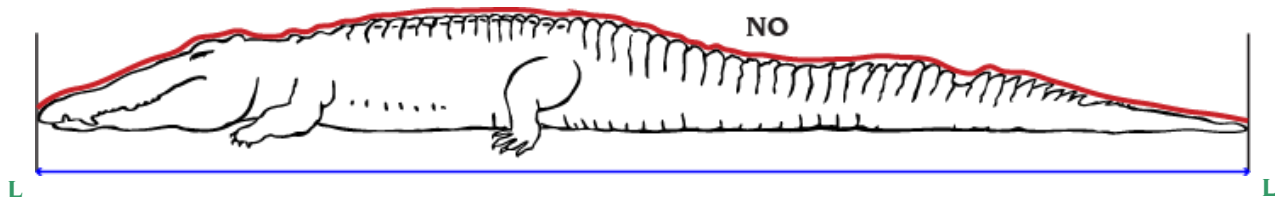

Figure 1
Rowland Ward measures crocodilians in a straight line between the pegs and **not** following the contour line of the body from nose to tail. (Figure 1) The body contour, scales and depression over the spine add considerably to the measurement. Also, some specimens are considerably bulkier in the middle, depending on two factors: a) the size of recent meals, and b) the amount of time elapsed after death because crocodilians bloat after dying and both are factors that will increase an “over the body” contour measurement.
1. Length. Lay the crocodile on a flat piece of terrain that is cleared of debris such as rocks and sticks. This is important in order to get a proper measurement. Pull the nose and tail of the reptile into a straight line, and then drive in pegs at each end. Make sure the pegs are at a 90-degree angle to the ground. Remove the crocodile. Take the measurements between pegs along the ground. Care should be taken to measure from where the peg is entered in the ground in a straight line to where the second peg touches the ground. The terrain must be flat and the tape measure must not be pushed into depressions or lifted up by sticks or rocks. Measurements should be taken to the nearest quarter-inch (or centimeter). Do not measure over the contours of the body of the animal. (See red line in Figure 1.) Make a photo of the animal in such a manner so that the pegs can be seen with the animal and submit this photo.